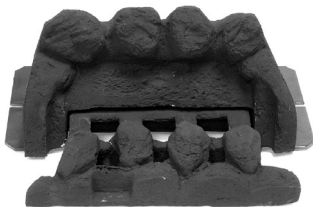

Fig 3b
Step 2 Place the rear matrix cut out section over the base matrix and centralise the assembly between the end tabs of the location bar. Ensure the rear matrix is pushed back against the location bar. (Fig 3b)